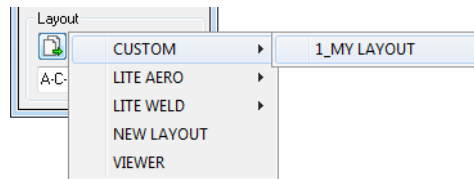

Figure 4-41 The Custom Layout saved templates
3. The new custom layout will be available in the same location as the other template layouts (see Figure 4-41 on page 266)